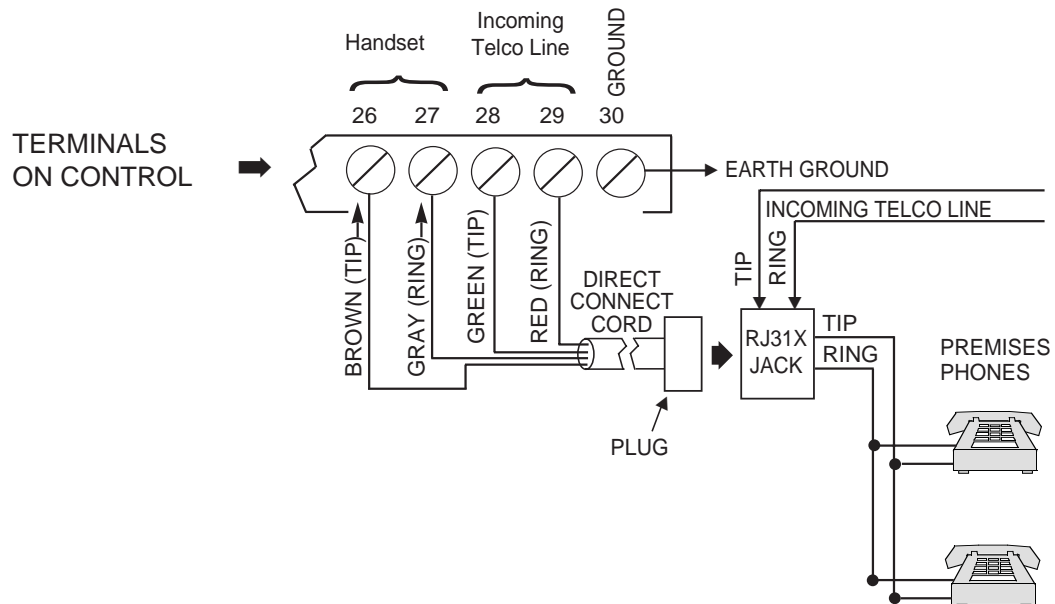

Figure 4. Standard Telephone Line Connections
1. Connect the incoming phone line and handset wiring to the main terminal block as follows (also see *Figure 4*):
- a. Red to the positive (+) battery terminal **on the control board** (see *Figure 4* or the Summary of Connections Diagram for location, if necessary).